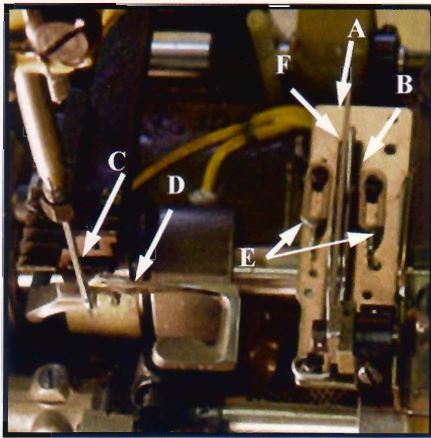

fig. 10
The cast-off plate (A, *Fig. 10*) should be set over the take-up so that there is equal clearance on each side. The looper thread take-up (B) is not spotted on the main shaft, and consequently, can be set to compensate for varying conditions. It is set correctly, when the looper thread is just cast off the highest lobe of the take-up when the point of the needle (C) is clearly visible below the underside of the looper (D). The looper thread eyelets (E), located on the cast-off plate, are adjustable, and their setting determines the amount of thread pulled off by the take-up. Moving the eyelets to the rear causes more thread to be pulled from the cones, and moving them forward causes less thread to be pulled off. Set the eyelets so that, when the looper reaches its extreme position to the left, all the slack has been removed from the looper thread, but it has not become taut. The retaining finger (F) controls the amount of slack thread in the system, and it is set correctly when it prevents the looper thread triangle from being wiped under the blade of the looper when the looper moves from right to left.